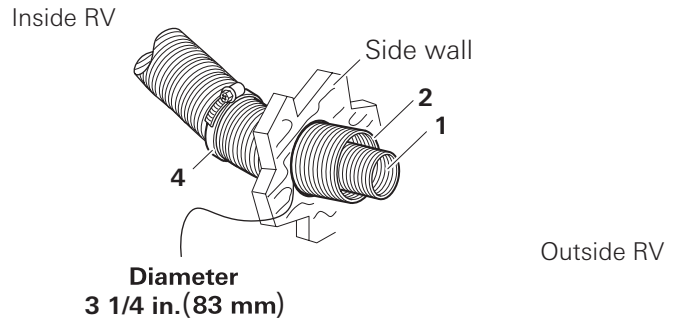

Fig. 11
1. Drill a hole with a diameter of 3 1/4 in. (83 mm); see Fig. 11.
3. Slide a hose clamp (Fig. 11 – 4) over the exhaust venting system.